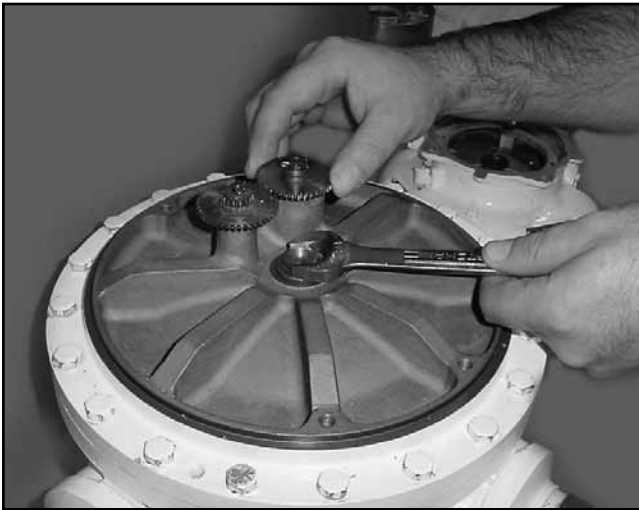
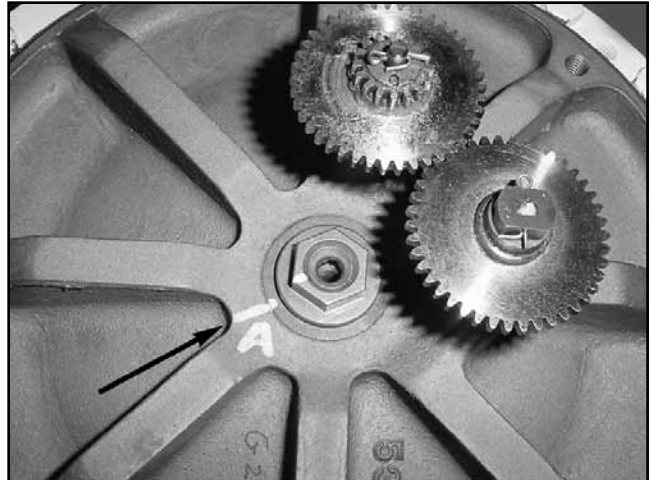

Figure 42
Figure 43
5. Use a 3/4" wrench to turn the Adjusting Cap and Adjusting Screw clockwise (Figure 42). Apply torque to the Jack Shaft Gear while turning the Adjusting Cap and Adjusting Screw clockwise. The Jack Shaft Gear will begin to spin as the rotor height is adjusted. When the rotor begins to spin mark a line and label the line "A" (Figure 43). The rotor is now in the up position.
1. Check rotor to block clearance as shown in Figure 42 and record finding in “As Found” column of Meter Clearance Record Chart, Page 19.